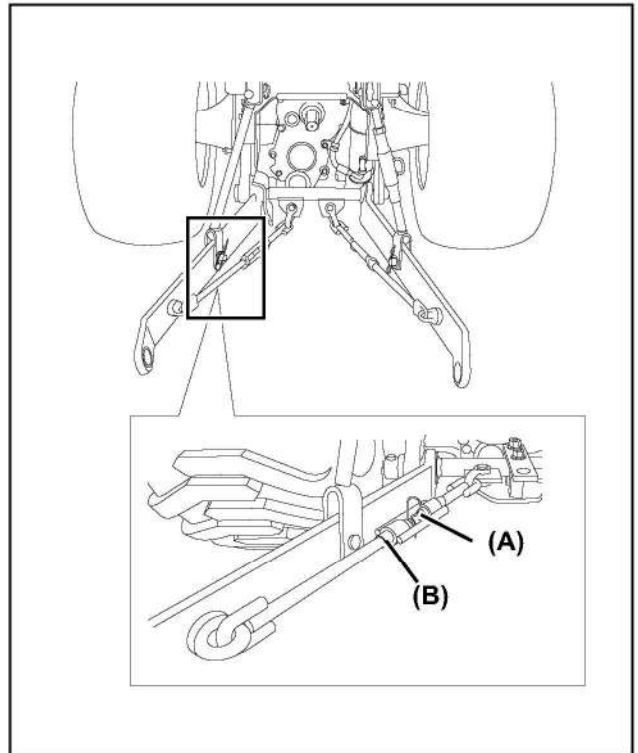

Fig 10-8
- (A) Locknut
- (B) Lift link right
4. Remove the hairpin clip (Fig 10-8, A).
5. Rotate the turnbuckle (Fig 10-8, B) to adjust the length of the check chain.